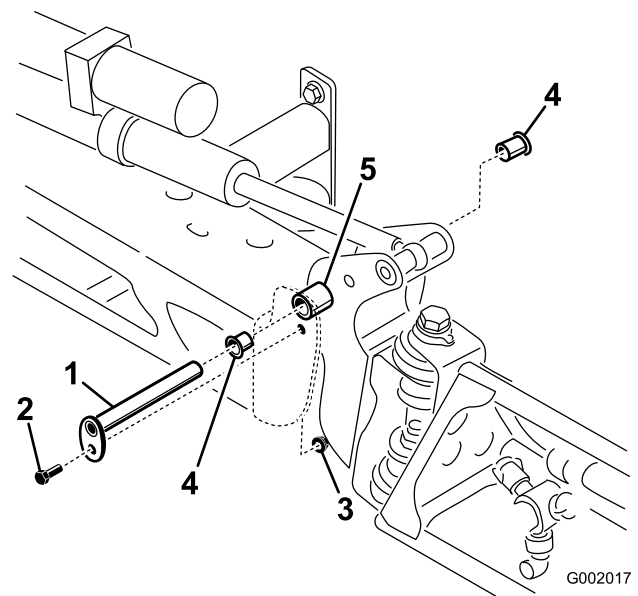

Figure 75
3. With the weight of the boom supported, remove the bolt and nut securing the pivot pin to the boom assembly (Figure 75). Remove the pivot pin.
5. Remove and inspect the nylon bushings from the front and back sides of the pivot bracket (Figure 75). Replace any damaged bushings.
7. Install the boom and pivot bracket assembly into the center frame, aligning the openings (Figure 75).